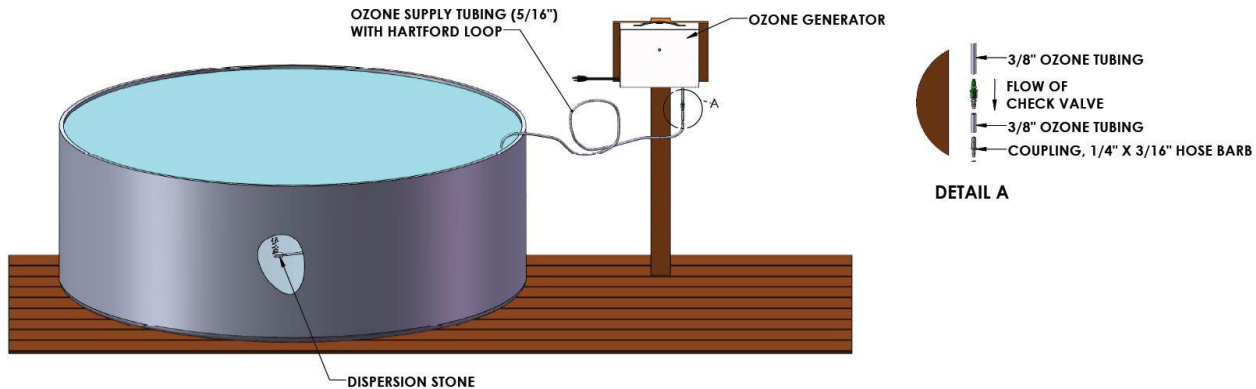

Figure 2. Standard Installation Diagram
4. Connect the ozone supply tubing to the barb fitting on the bottom right side of the purifier. Review the unit and supporting Figure 2. If the ozone supply tubing is too long, trim it with household scissors or a razor knife. If the tubing is too short, additional ozone supply tubing is available.